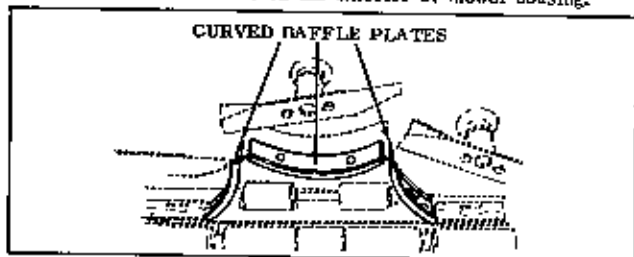

FIGURE 6
3. Install the curved mulcher baffles (Left Hand, Right Hand and center) as shown in Figure 6. Those baffles are each held in place by 2 carriage bolts, lockwashers, and hex nuts. Note that lockwashers, and hex nuts are on the inside of the baffle support.